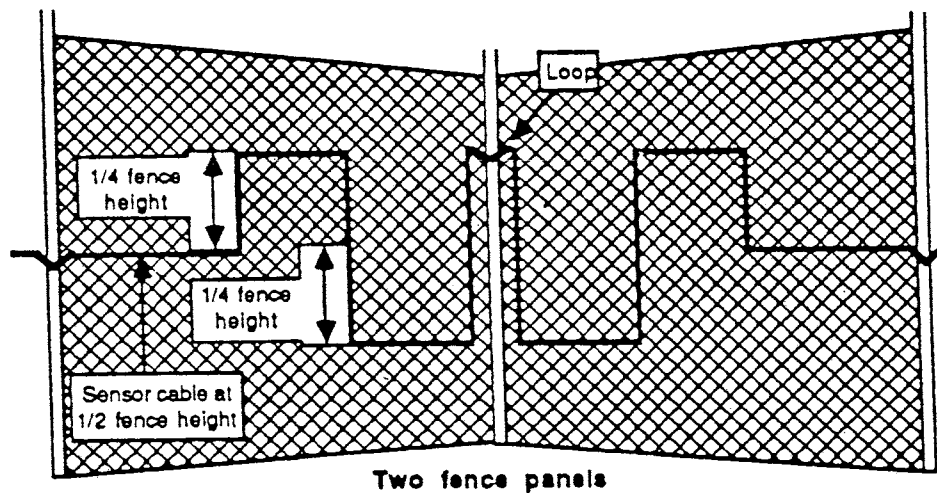

Figure 4-7. Corner Single-Pass Sensor Cable
- 3. Many fence corners include diagonal and/or horizontal stiffeners. This may make the fence fabric near the corner quite rigid. This will reduce the ability of a single run of cable to detect a climb-over attempt in this area. Therefore, it is good practice to loop the sensor cable on each side of the corner post, as shown in Figure 4-7 and 4-8.